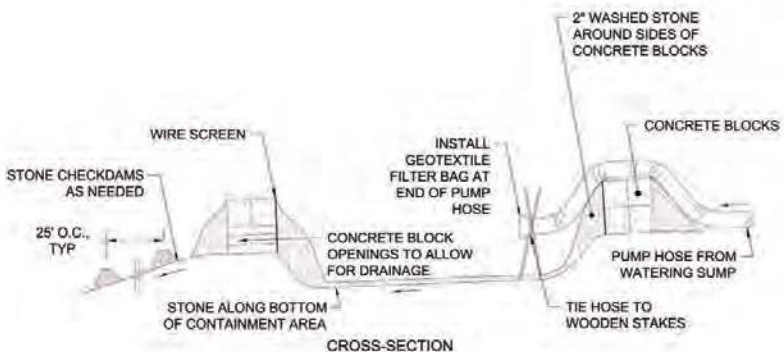

Figure 3.11. Example schematic showing a stone and block dewatering containment area (Horsley Witten Group).
**Containment Areas** are excavated areas surrounded by gravel, silt fence and/or other sediment barriers used for secondary dewatering treatment (Figure 3.11).